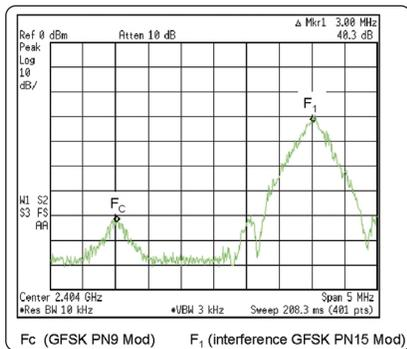

Figure 2. Adjacent Channel Interference Stimulus
- *Adjacent Channel 1,2,3 MHz* – Measure BER with interference signals in channels adjacent to the desired channel (see Figure 2).